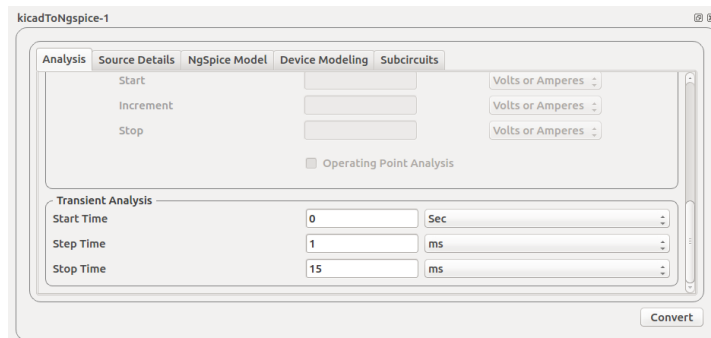

Figure 11.2: Analysis parameters: Low pass filter
2. Create the KiCad netlist. Now the analysis and analysis parameters are given as shown in Fig. 11.2.